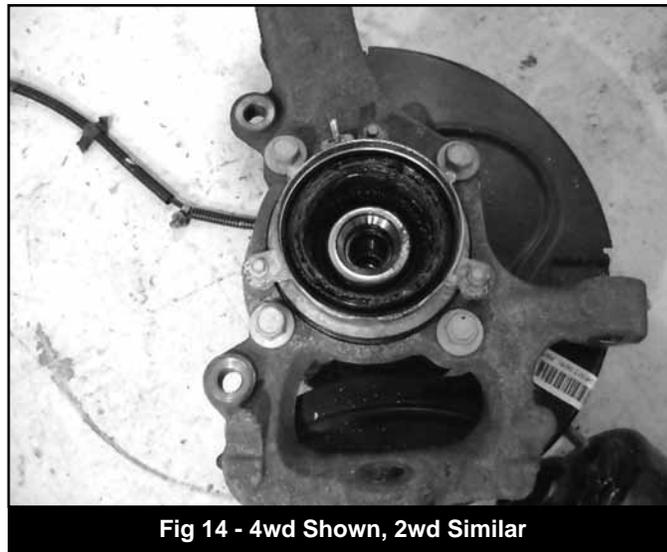

Fig 14 - 4wd Shown, 2wd Similar
36. Remove the four hub bolts from the knuckle and remove the hub from the knuckle (Fig 14). Inspect mounting surface of the hub assembly and clean any dirt or corrosion off as necessary.